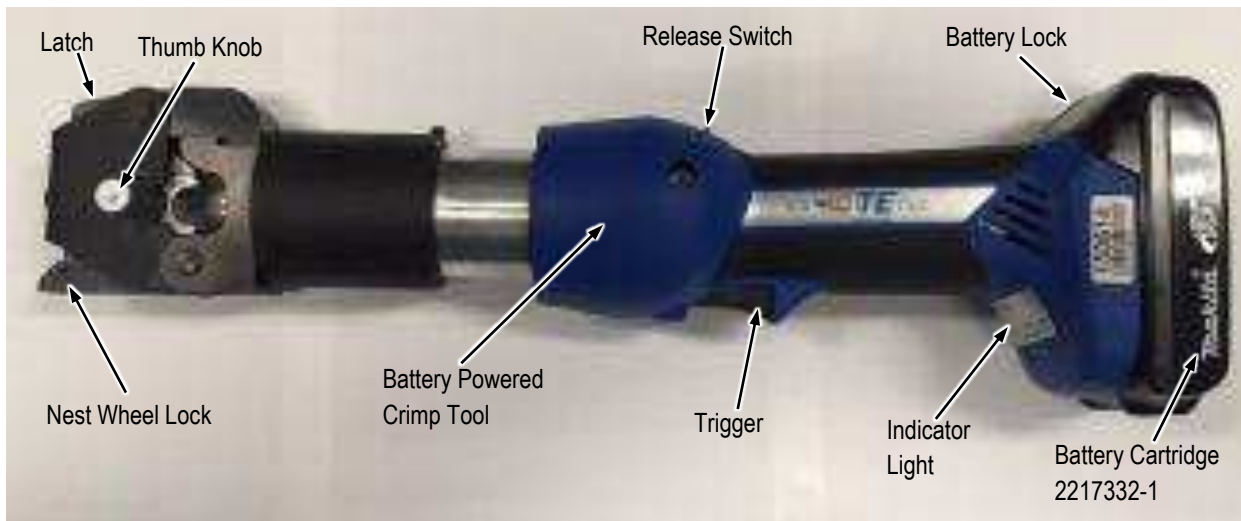

Figure 1
The 6-Ton Inline Battery Powered Crimp Tool Kit 2844090-[ ] consists of the Indexing Crimp Head Battery Powered Crimp Tool (with the Indexing Head Assembly installed), as well as two rechargeable battery cartridges (2217332-1) to power the tool. See Figure 1. Kits 2844090-1 includes a 110V battery charger (2217331-1); Kit 2844090-2 includes a 220V battery charger (2217331-2. Kits 2844090-1 and -2 have a release switch to retract the ram. See Section 5.2 for TE Connectivity (TE) terminal types and wire sizes approved to be crimped with this tool.
Refer to Figure 1/Table 1.